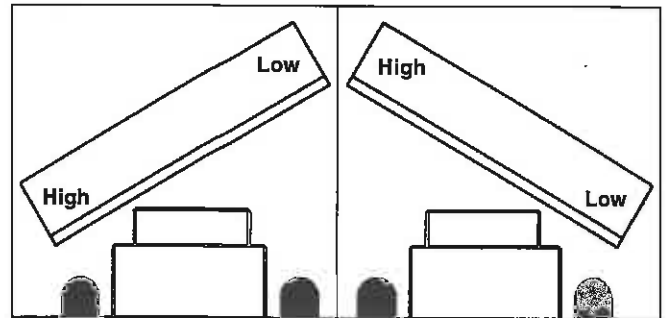

figure 55
- figure 55, loosen hardware that attaches the swing assembly to the brush head assembly; lower the left-hand side of the brush head until both sides are an equal distance above the ground. Tighten the hardware.
- figure 55, lower the adjustable hitch arm.